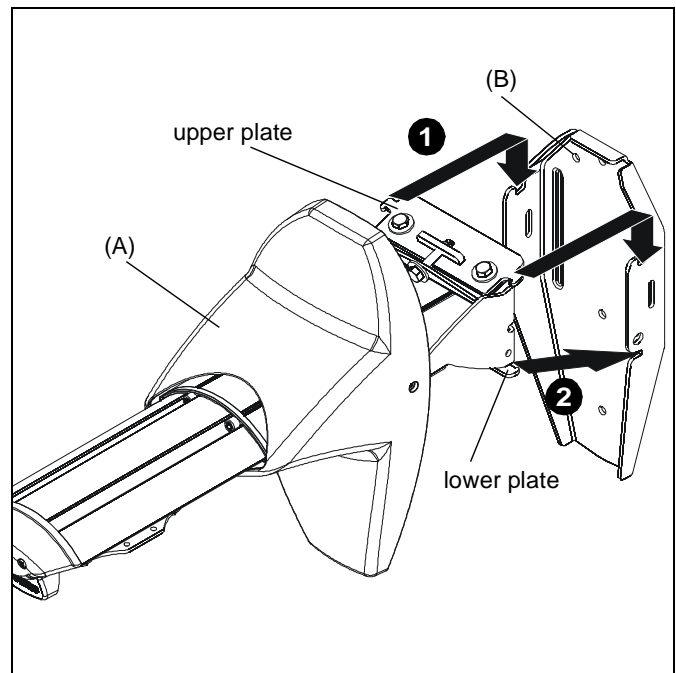

Figure 10
1. Lift short throw projector arm (A) up to mounting bracket (B) and hook top plate to upper notches on bracket. (See Figure 10)
2. Slide lower plate into lower hooks on bracket. (See Figure 10)